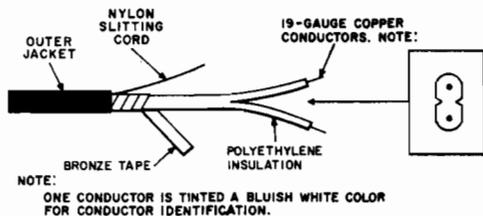

Fig. 5—E Buried Wire
**5.02** E buried wire, shown in Fig. 5, consists of two parallel 19-gauge (AWG) annealed copper conductors, insulated with brown-colored polyethylene. An armor of flat bronze tape is applied over the insulated conductors and is covered with an outer jacket of black PVC which is underlaid with a nylon slitting cord. One conductor is tinted a bluish white color for conductor identification.